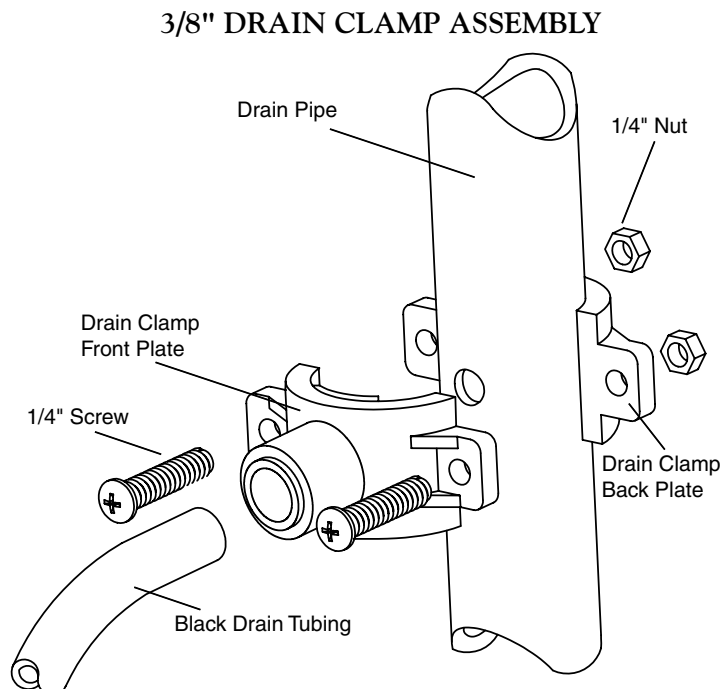

Figure 4
- Refer to Fig. 4. Insert the tubing into the Drain Clamp. Make sure the tubing is pressed all the way in to create a pressure tight connection.